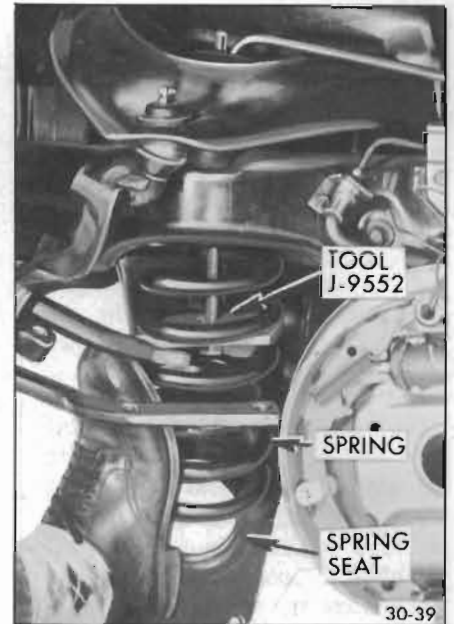

Figure 30-39—Pushing Spring onto Lower Control Arm Seat
6. Force the spring on its seat in the lower control arm as shown in Figure 30-39. Remove tool.